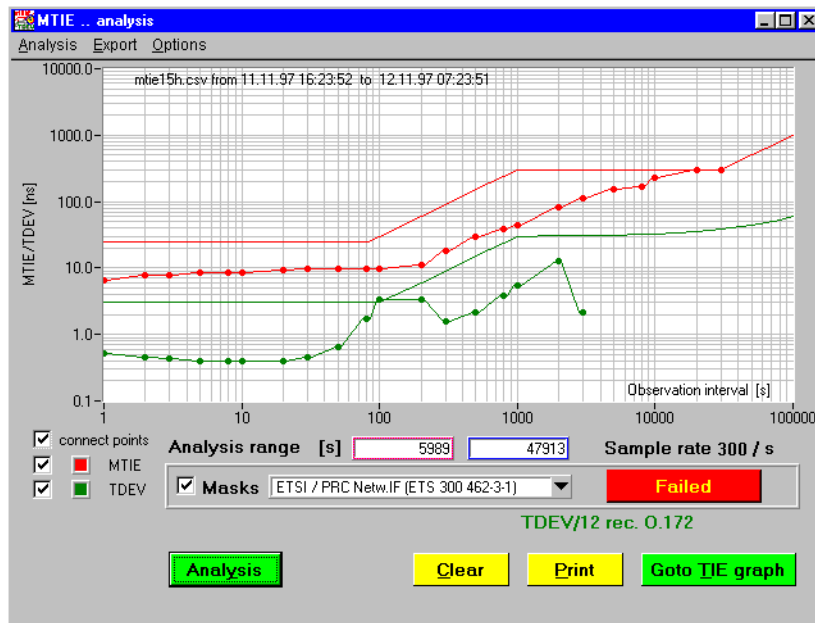

Fig. O-8 “MTIE analysis” window with MTIE and TDEV data and ETSI tolerance masks
- Analysis curve: Only the individual result points from the analysis are used for the comparison. The points on the interpolated lines are **not** compared. They merely improve the optical display (see Fig. O-8).